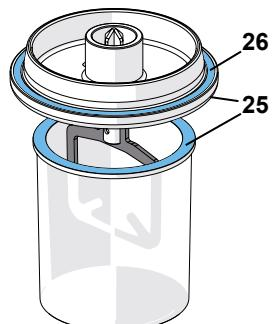

Fig. 10
- ⇒ Make sure the bowl rim and cover rim (25, Fig. 10) are clean.
- ⇒ Couple the mixing bowl (14) to the appliance.
- ⇒ Do not let go until the bowl stays in place alone and vacuum level bar (23) has passed the halfway mark!
- ⇒ Start the mixing process: Press the control knob (1).